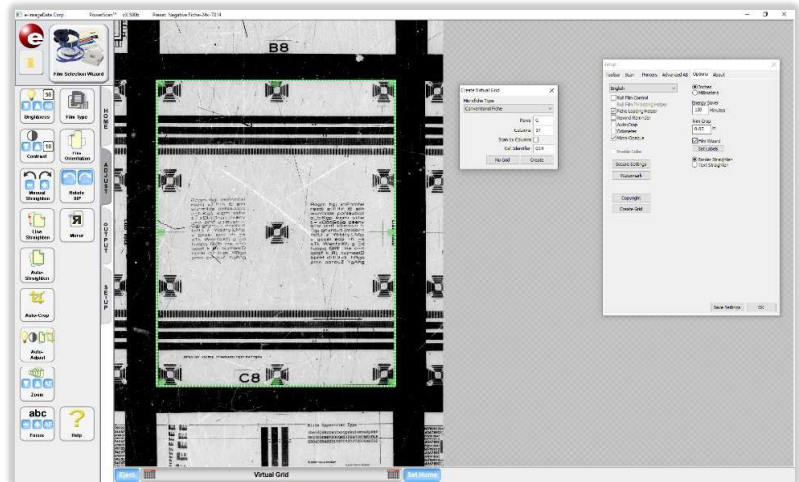

Figure 79
- q. Click the *Set Home* button. The AUTO-Carrier will move to the general location of image A1. *Figure 79*